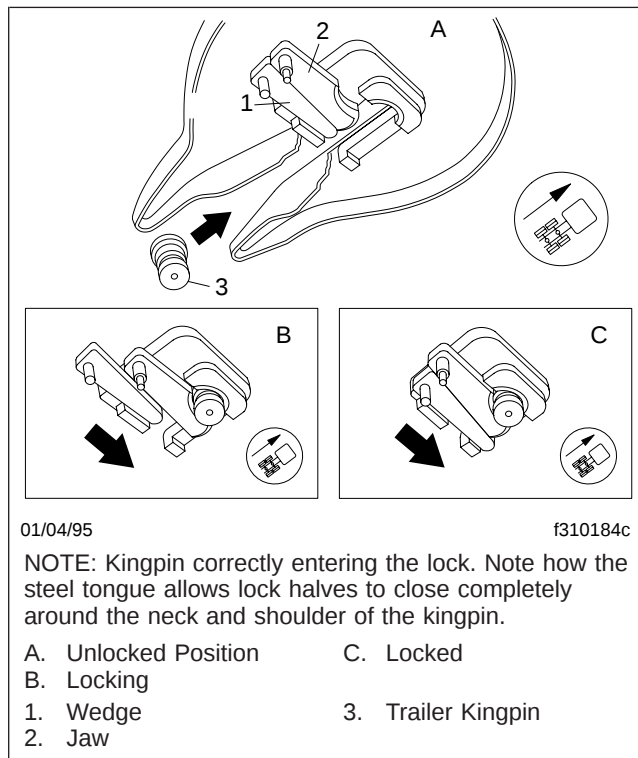

Fig. 11.5, Fontaine Kingpin Lock Mechanism
The Fontaine fifth wheel lock mechanism for the trailer kingpin consists of a spring-loaded jaw and a sliding wedge. See Fig. 11.5. The jaw and wedge each have a pin permanently attached. The pin on the jaw and the pin on the wedge fit into elongated notches in the lock control handle. The notches in the handle control the limit of movement for both the jaw and wedge. The notches are arranged so that the wedge is actuated first during release of the kingpin.
During coupling (**Fig. 11.5**), the motion of the kingpin entering the jaw will actuate the jaw and wedge. The jaw will move behind the kingpin, followed by the wedge. The purpose of the wedge is to reinforce the jaw and take up slack around the pin. Any wear on the jaw is immediately taken up by the wedge so there is no slack in the connection.
3. Position the tractor so that the fifth wheel lock opening is in line (both vertically and horizontally) with the trailer kingpin. The kingpin should be in a position to enter the throat of the locking mechanism, as shown in Fig. 11.5. Adjust the trailer landing gear to give enough alignment height for positive kingpin lockup.